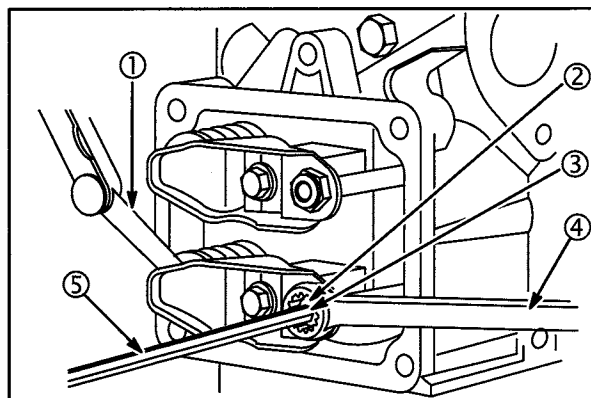

Fig. 49
2. Use a feeler gauge (1) to measure the valve clearance. Valve clearance should be 0.005" (0.13 mm) for the intake and exhaust valve.
3. If the valve clearance requires adjustment, loosen the lock nut (2) with a wrench (4). Use a hex wrench (5) to turn the adjusting screw (3) to adjust the valves, Fig. 49.